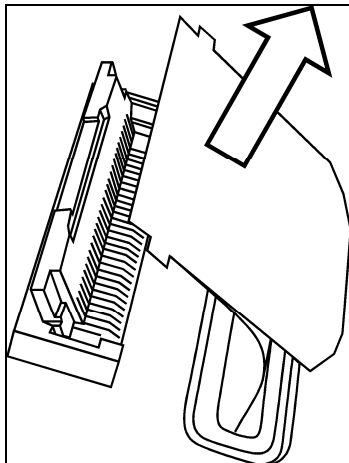

Figure 001-63: Touchscreen ZIF Plug
9. Open the touchscreen zero insertion force (ZIF) plug adapter (Figure 001-63).